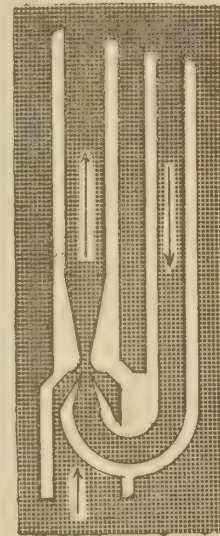

Figure 7
Figure 7 illustrates a jet pump. Water under pressure from the "pump" outlet passes down the drive pipe and is forced at high velocity through the jet nozzle and venturi. As it passes through the venturi this jet of water draws additional water up through the foot valve and forces it up the delivery pipe to within the suction lift of the shallow well pump at the top. The jet nozzle and the venturi must be adapted to the depth of the well. Most manufacturers furnish three different combinations of nozzles and venturis for the range of depths from 20 feet to about 100 feet.
There are two types of deep well jets known respectively as double pipe jets and single pipe jets. The illustration in figure 7 shows a double pipe jet and this is the one used when the well is large enough to admit two pipes. The single pipe jets are used in drilled wells not large enough to admit the two pipes of the double pipe jets. They differ from the double pipe jets in that only one pipe with the entire jet assembly on the end of it is lowered into the well where the jet assembly is expanded to make a watertight seal with the well casing. The well casing itself then serves as either the drive pipe or the delivery pipe. Frequently, the single pipe jets are known as packer jets because the arrangement on the jet body which expands to make the seal with the well casing is called a packer.
*From Chart in Figure 7 of Report BMS66, National Bureau of Standards.